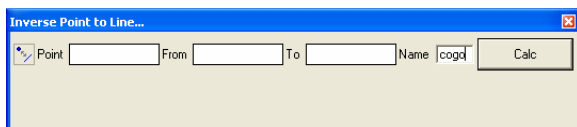

Figure 9-80. Inverse Point to Line Dialog Box
1. Click **COGO ► Inverse Point To Line**. The *Inverse Point to Line* dialog box displays (Figure 9-80 on page 9-58).
2. Specify the desired points in the *Point* field and the line (ray) in the *From/ To* fields of the *Inverse Point to Line* dialog box (Figure 9-80).